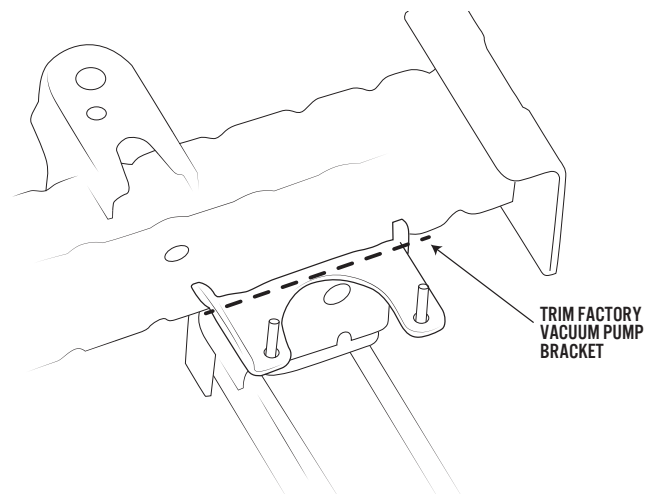

Figure 3
5. Modify the vehicle vacuum pump bracket (Fig. 3) by trimming off the OEM bracket to maximize clearance to all winches. Deburr the edges and apply a rust inhibitor to the bare edges.